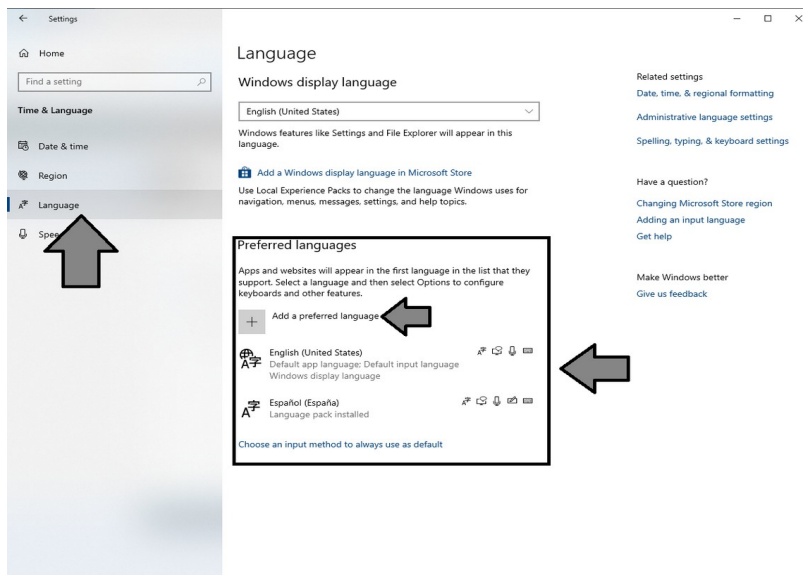

Figure 139: Language Options
3. On the Time & Language menu, click on the Language menu on the left panel. Then check if in Preferred languages appear the following languages installed (Figure 139):
5. Install a new language: To install a new language click on “Add a preferred language” (Figure 139), a new menu will pop-up, search for the language desired to be installed. (Figure 142). After this, select the language and click on next. Once next is clicked, a new menu will appear, in which the “Install language pack” must be checked (Figure 141). Click Install on the bottom left to finish this step.